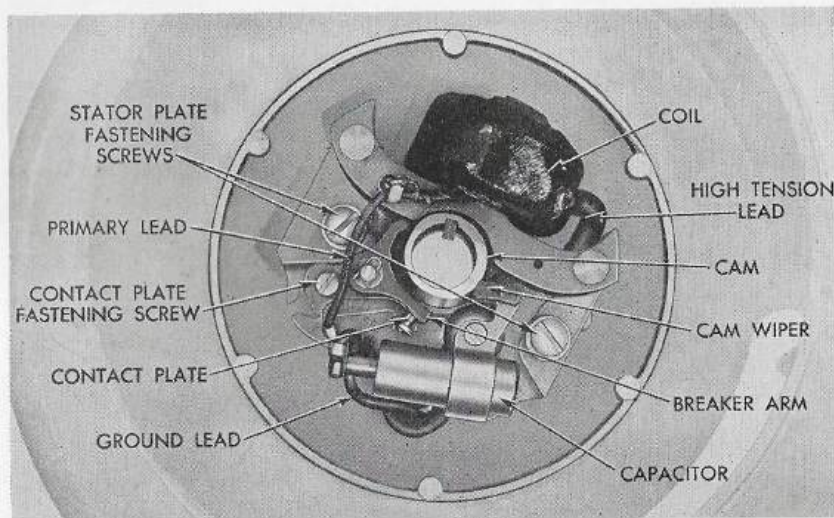

Figure 16—Magneto
12. IGNITION (See Figure 16)**a. Description**